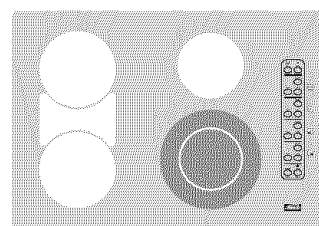
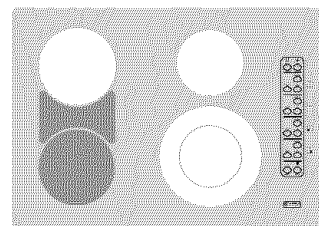

Figure 2
Figure 3
- Touch **POWER ON/OFF** pad (See Figure 3) for 2 seconds, a beep will sound and steady "-" will appear in all displays. Touch **ON/OFF** pad (See Figure 2) of the selected cooking surface and "0" will appear in the display. Touch **▲** or **▼** pads (See Figure 2) to set the element at the temperature desired. To instantly reset temperature to "0" touch **▲** and **▼** simultaneously. A beep will be heard each time the pads are touched.
2. Touch **POWER ON/OFF** pad (See Figure 3, on page 9) for 2 seconds, a beep will sound and steady “-” will appear in all displays. Touch **ON/OFF** pad (See Figure 2, on page 9) of the selected cooking surface and “0” will appear in the display. For smaller cookware, touch **^** or **v** pads (See Figure 2, on page 9) to set the element at the temperature desired. If larger cookware is used, touch **BOTH ELEMENTS** pad (See Figure 1, on page 9) and then touch **^** or **v** pads to set the element at the temperature desired. You may switch from either of these settings at any time during cooking with the dual element by touching **BOTH ELEMENTS** pad. To instantly reset temperature to “0” touch **^** and **v** simultaneously. A beep will be heard each time the pads are touched.
The cooktop contains a Bridge element that you may connect with the left front element to allow for griddle-type cooking with suitably long rectangular or oval cookware. When the Bridge element is engaged, a single control maintains even temperature across both elements. See figure 3. For even longer cookware, turn on the left rear element. See figure 4. Since it has an independent control, you may set the rear element to the same cooking temperature as the Bridge, or to a cooler temperature to create an area on the cookware surface for keeping food warm.
2. Touch **POWER ON/OFF** pad (See Figure 3, on page 9) for 2 seconds, a beep will sound and steady “-” will appear in all displays. Touch **ON/OFF** pad (See Figure 2, on page 9) of the left front